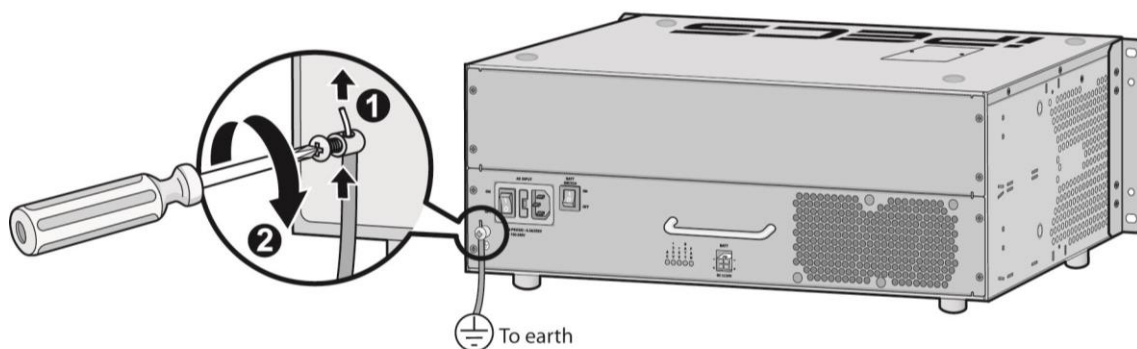

Figure 3.6.1-1 Grounding the KSU
- 2) Loosen the Ground lug screw by turning the screw counter-clockwise to loosen, as shown in Figure 3.6.1-1.